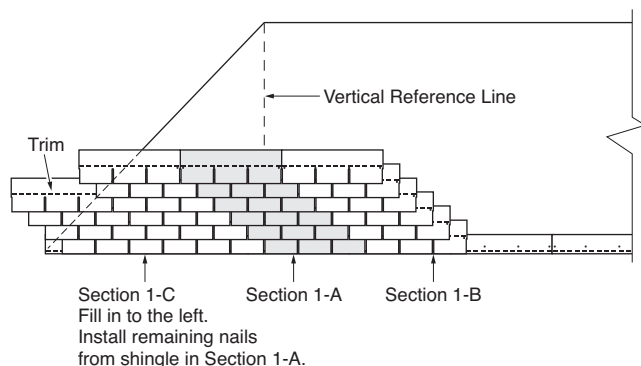

Figure 9-4: Filling in the area to the left of the vertical reference line.
3. Before continuing up the roof section, apply one shingle immediately to the right of each shingle of the completed first section (see Figure 9-4, Section 1B).
3. Before beginning each diagonal section, apply one shingle immediately to the right of each shingle of all courses already installed on the roof (*as in Figure 9-4, Section 1-B*).